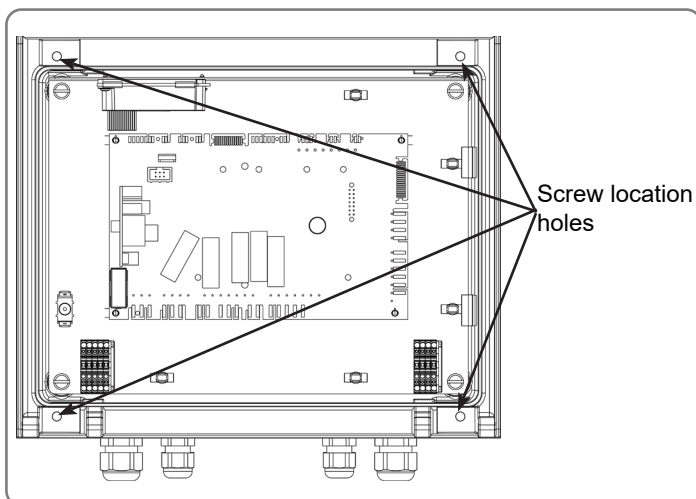

figure 7 - Screw locations
- Insert the anchors into the wall (if required) using the holes in the case as a pattern, see figure 7.